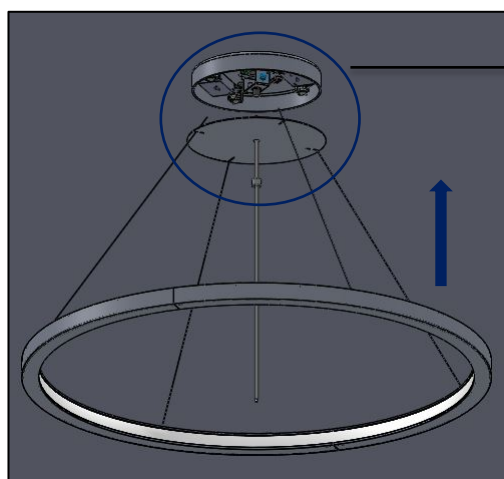

FIG. 14 - INSTALLATION VIEW
5. Raise the REV LUMINAIRE up, with multiple people, to the ceiling and feed the AIRCRAFT CABLE through the GRIPLOCK and CORD through NIPPLE which is available in MOUNTING BRACKET ASSEMBLY. Adjust the AIRCRAFT CABLE to the desired length as shown in FIG. 14 & 15 below.